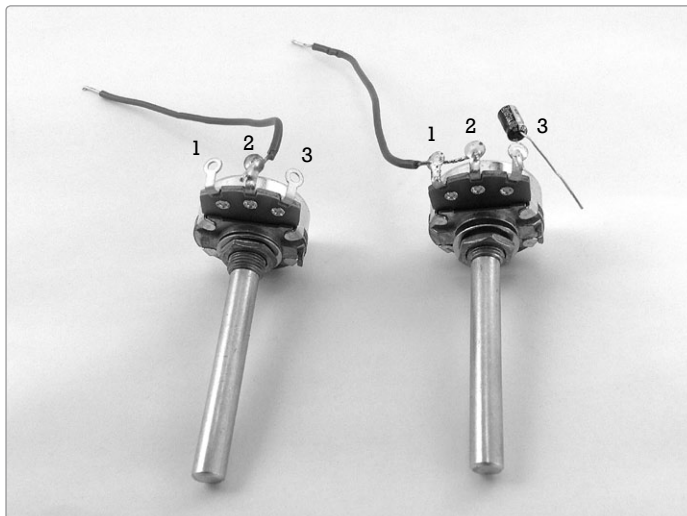

FIGURE 12-4: *The finished volume control (left) and tone control (right)*
- Step 2** Cut a 4-inch length of insulated wire. Strip about 1/4 inch of insulation off either end and tin each end of the wire. (If this is your first soldering project or if you just need a refresher, see “Soldering” on page 346.) Solder one end of this wire to the *V* pot's middle lug, as shown on the left in Figure 12-4, and then set it aside.
- Step 3** Cut another 4-inch length of insulated wire. Strip 1/4 inch of insulation from one end and 1/2 inch of insulation from the other. Then tin both ends. Thread the tinned 1/2-inch end of the wire through lugs 1 and 2 of the *T* potentiometer (see Figure 12-4; we're talking about the pot on the right). Solder this wire to those lugs.
- Step 4** Finally, solder the positive leg of the 1.5 μF electrolytic capacitor to lug 3 of the *T* pot. Most electrolytic caps (including this one) are *polarized*, which means they have a positive and negative leg. The negative leg is marked with a stripe running down the capacitor's body, so in this case you'll want to solder the stripeless leg to lug 3 (see Figure 12-4, right).